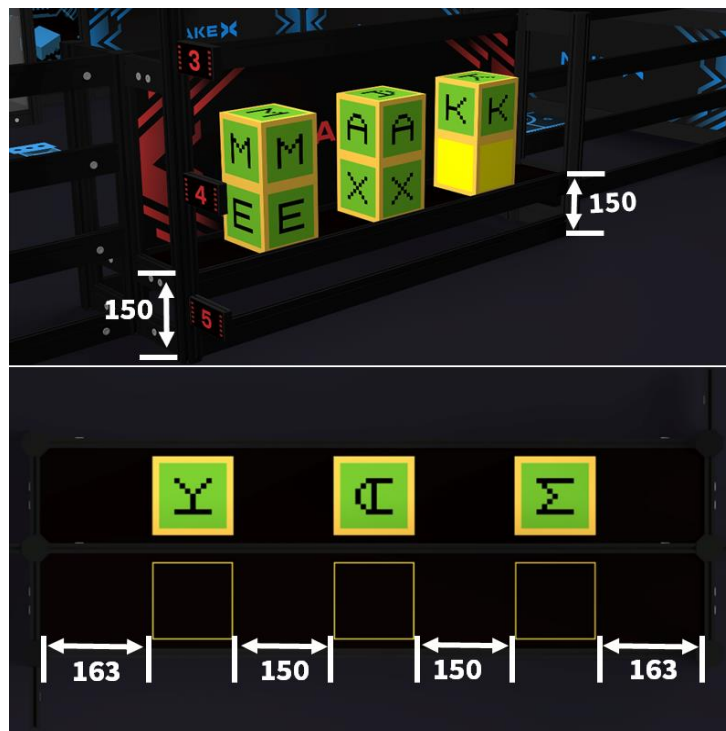

Fig 3.8 Production Platform
**(5) Production Platform:** Each Side has one production platform. The Alphabet Cubes and the Blank Cubes are initially placed on these platforms before the start of the match (Before each match, the Referee shall randomly select prop card to confirm the arrangement order. All cubes shall be placed in strict accordance with the pattern shown in the prop card, and the hole of the cube shall be aligned to the central partition.) The vertical height of the platform from the Ground is 150 mm, and the cube placement position is shown in figure 3.8 and 3.9.